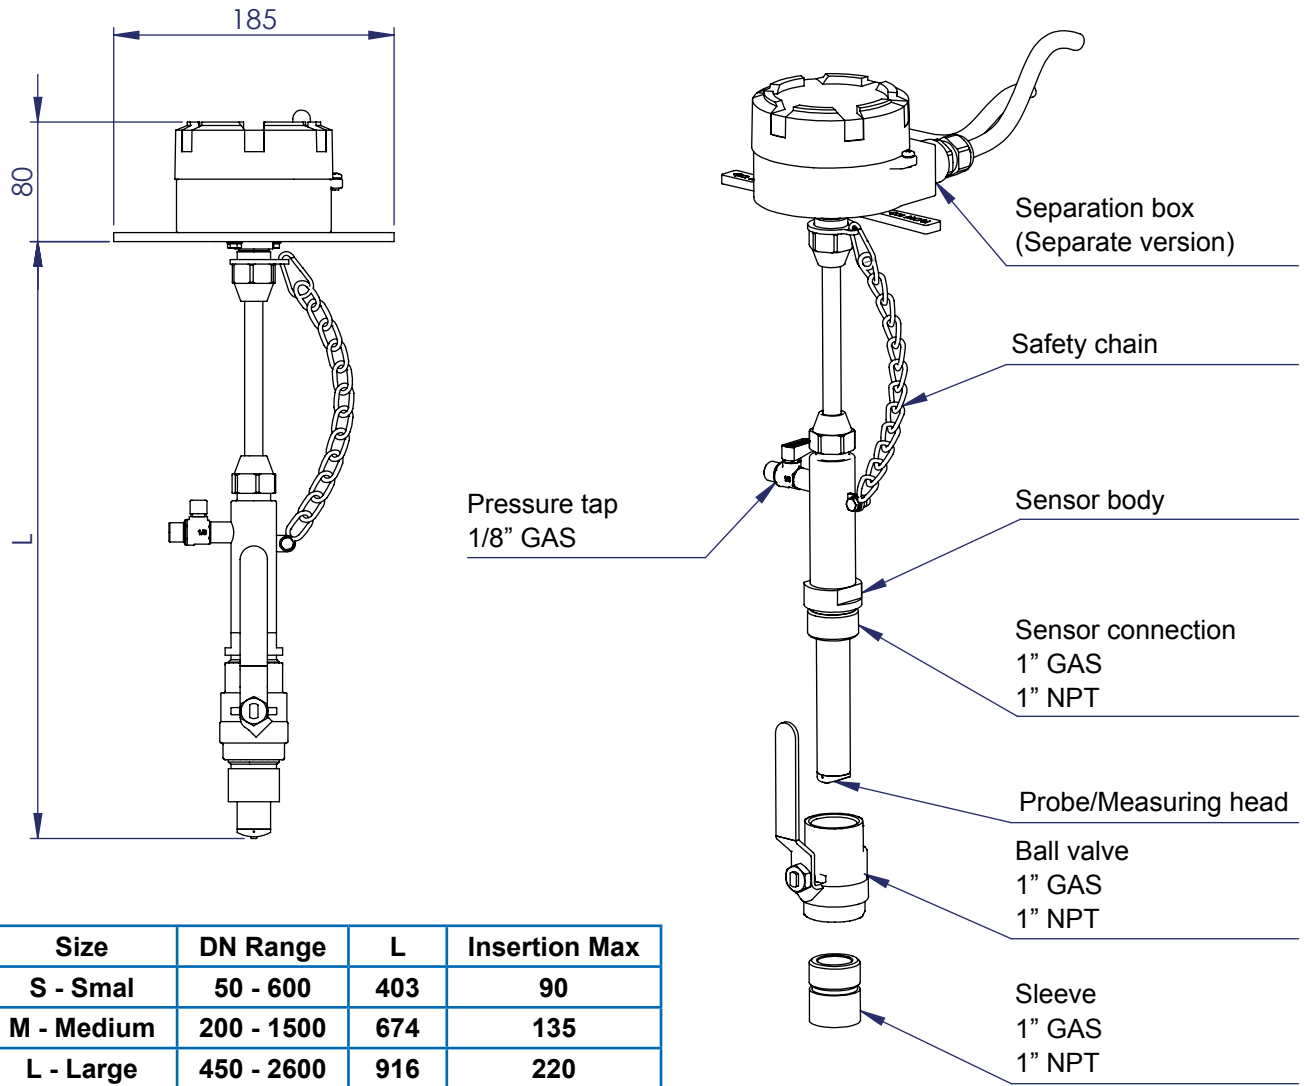

Fig. 63
- » L = Flowmeter length according to the table of Fig. 63